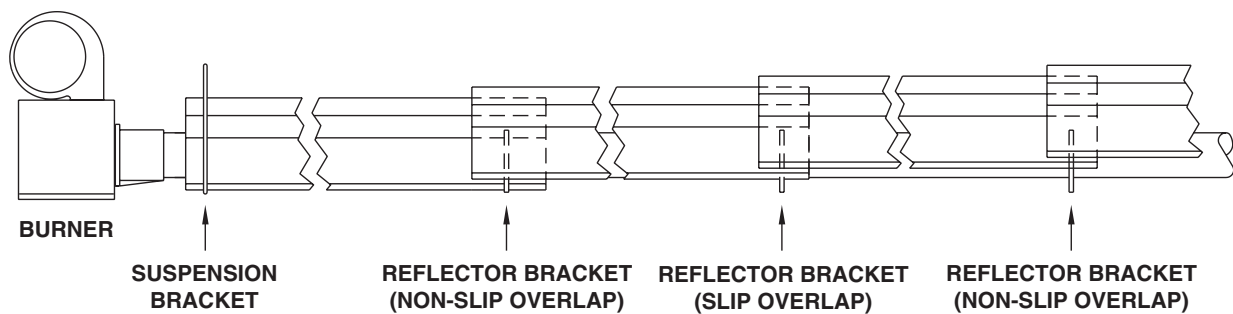

Figure 15. Typical Bracket Configuration
- d. Alternate slip with non-slip overlaps over entire length of tube assembly as shown in **Figure 15**.